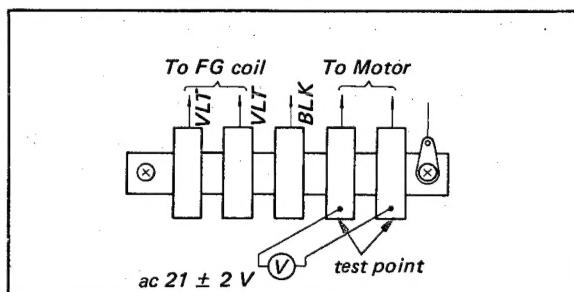

Fig. 2-9. Test point for electromagnetic brake adjustment
2. Set the turntable for 33-1/3 rpm operation, and then measure the voltage applied to the motor at the 5-p terminal strip as shown in Fig. 2-9. It should be within the limits of  $21 \pm 2$  volts ac. If not, readjust the clearance between the turntable and the magnet by replacing the mounting plate as previously described.